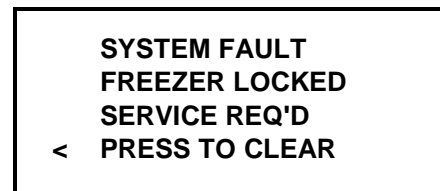

Figure 15
2. There has been a thermistor failure (freezing cylinder, hopper, or glycol) during the heat treatment process. (See Figure 15.)